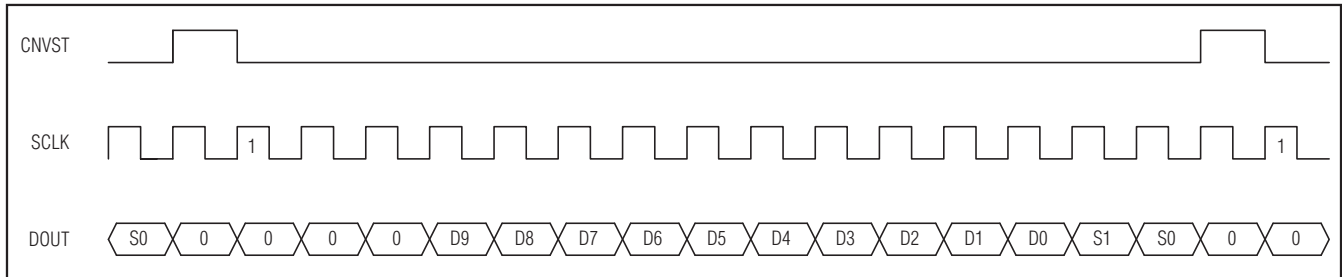

Figure 17. DSP Interface—Continuous Conversion
The MAX1076/MAX1078 can also be connected to the TMS320C54\_ by using the data transmit (DX) pin to drive CNVST and the CLKX generated internally to drive SCLK. A pullup resistor is required on the CNVST signal to keep it high when DX goes high impedance and 0001hex should be written to the DXR continuously for continuous conversions. The power-down modes may be entered by writing 00FFhex to the DXR (see Figures 17 and 18).
sions, idle CNVST high and pulse it low for the entire conversion. The ADSP21\_ \_ \_ STCTL and SRCTL registers should be configured for late framing (LAFR = 1) and for an active-low frame (LTFS = 1, LRFS = 1) signal. This is also the best way to enter the power-down modes by setting the word length to 8 bits (SLEN = 1001). Connect the  $V_L$  pin to the ADSP21\_ \_ \_ supply voltage when the MAX1076/MAX1078 are operating with a supply voltage higher than the DSP supply voltage (see Figures 17 and 18).